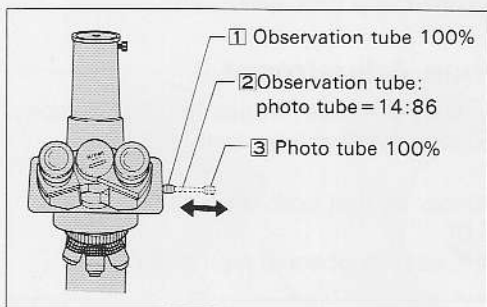

Fig. 6
(2) When using the trinocular eyepiece tube "T"
As shown in Fig. 6, when the change-over knob is pushed until it reaches the limit ①, 100% of the light enters the observation tube. When the change-over knob reaches the intermediate click ②, the proportion of light entering the observation tube and photo tube will be 14:86. When the change-over knob is pulled to the limit ③, 100% of the light enters the photo tube.